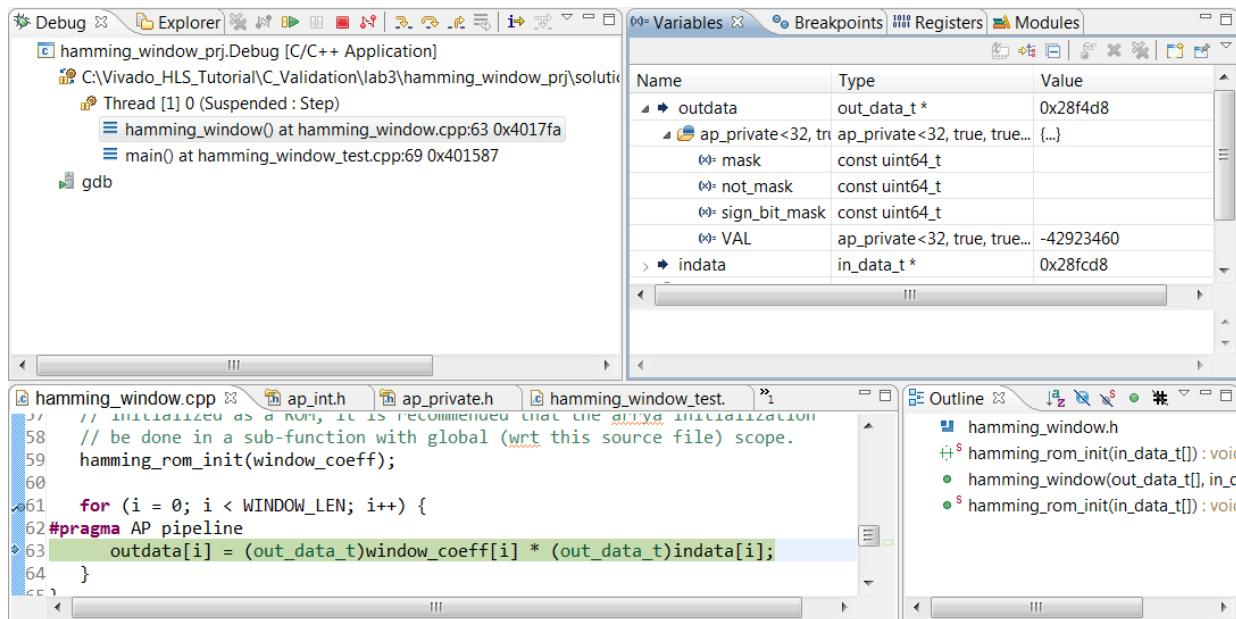

Figure 3-22: Arbitrary Precision Variables
10. Expand the `outdata` variable, as shown in Figure 3-22 to see the value of the variable shown in the `VAL` parameter.